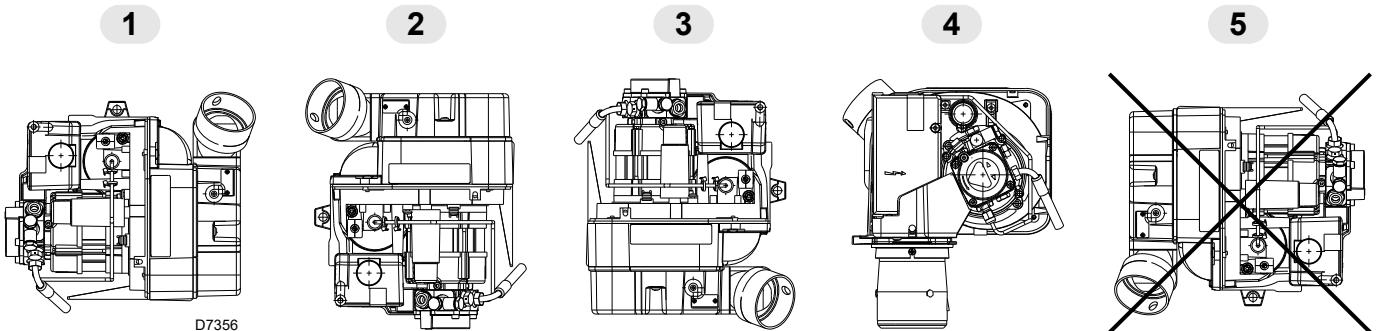

Fig. 5
- The burner is designed to operate only in the positions **1**, and **3** (Fig. 5).